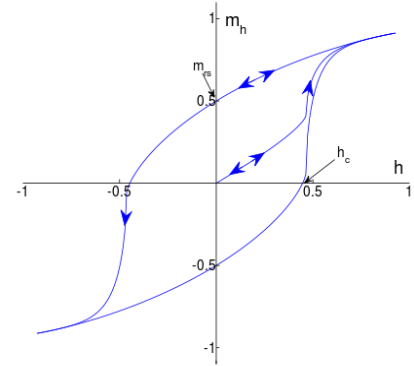

Fig. 3
**Hysteresis:** During their early investigations, the pioneers in this field made another interesting discovery. They plotted a graph of the flux density (lines/sq inch) versus current in the coil. This current, was of course d. c. from a battery. What they obtained was curve which increased smoothly until a certain point, beyond which it began to fall off due to saturation. But then, as they gradually reduced the magnetizing current again, the curve they obtained “on the way down” was slightly higher than it had been “on the way up”. Furthermore, if they kept going “up” with the opposite direction of current, they got the same shape of curve as before, only of course “upside down”. Finally, as they backed down again with current in the opposite direction, they got the same effect the remaining magnetism was slightly stronger than on the way “up”. See Fig 3. This was a very significant finding,